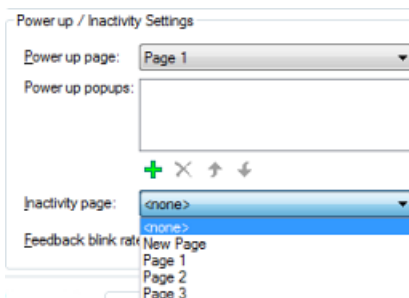

FIG. 54 Project Properties dialog (Panel Setup Information tab) - Power Up Page
2. In the *Panel Setup Information* tab, click the down arrow next to the **Inactivity page flip** field to display a list of all of the pages in this project (FIG. 54):